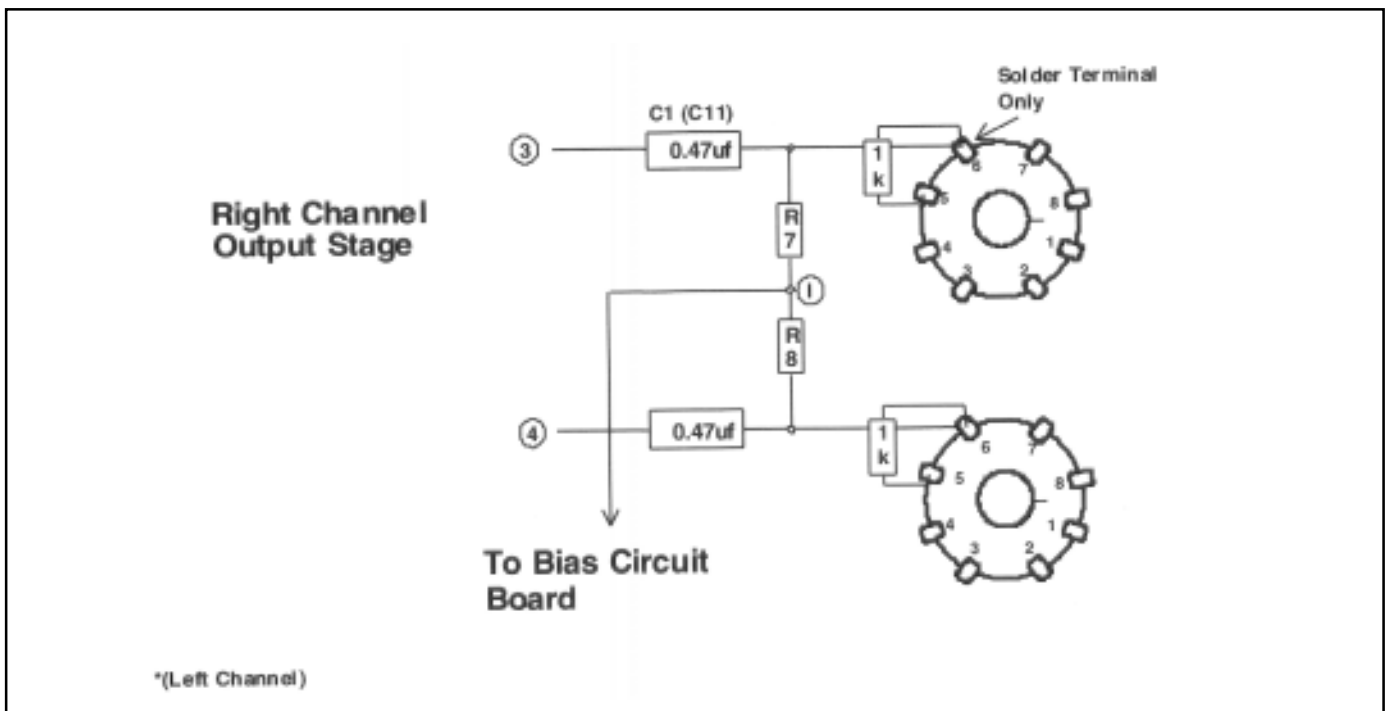

Figure 4. Bias Network
16) Cut coupling capacitor leads to correct length, install Teflon sleaving and connect to output stage. Refer to figures 4, 6 and 9.